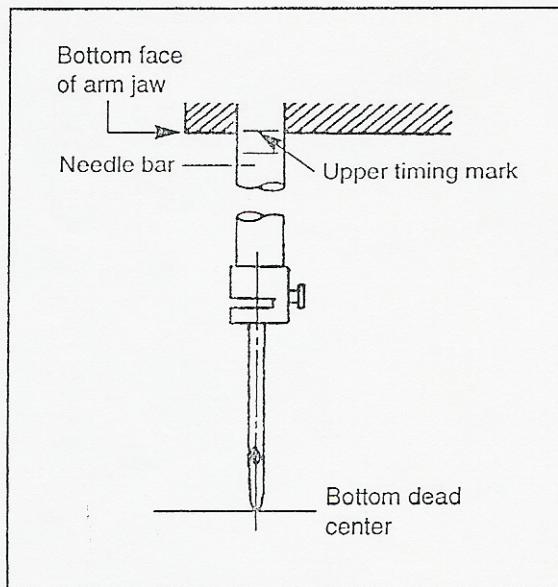

FIG. 1
- (1) Remove the work table.
- (2) Remove the needle plate and hook cover.
- (3) Rotate the hand wheel forward so that the needle bar comes to the bottom dead center. The upper timing mark of the needle bar must be aligned with the bottom face of the arm jaw (Fig. 1).
(fig. 1)